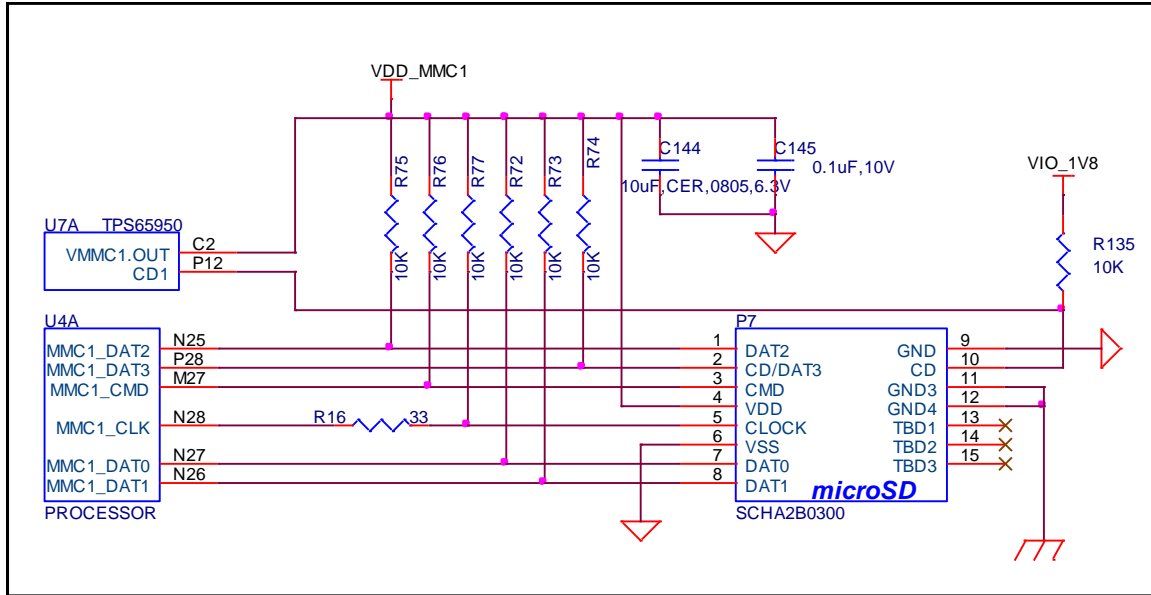

**Figure 41. USB Based Ethernet Design**
**Figure 41** is the design of the power control for each USB host port. Each port can be turned on or off from the **LAN9514** over the USB interface. U13, a TPS2045, is a four port FET with over current detection. The overcurrent detect output is tied to the enable pin from the LAN9514. In an over current condition the signal is immediately turned off without waiting for the processor to turn off the power. The **LAN9514** detects the overcurrent condition and keeps the over current condition turned off.
**Figure 41** is the circuitry that applies to the Ethernet interface on the board. The **LAN9514** device while performing the function of the HUB also contains the Ethernet controller.